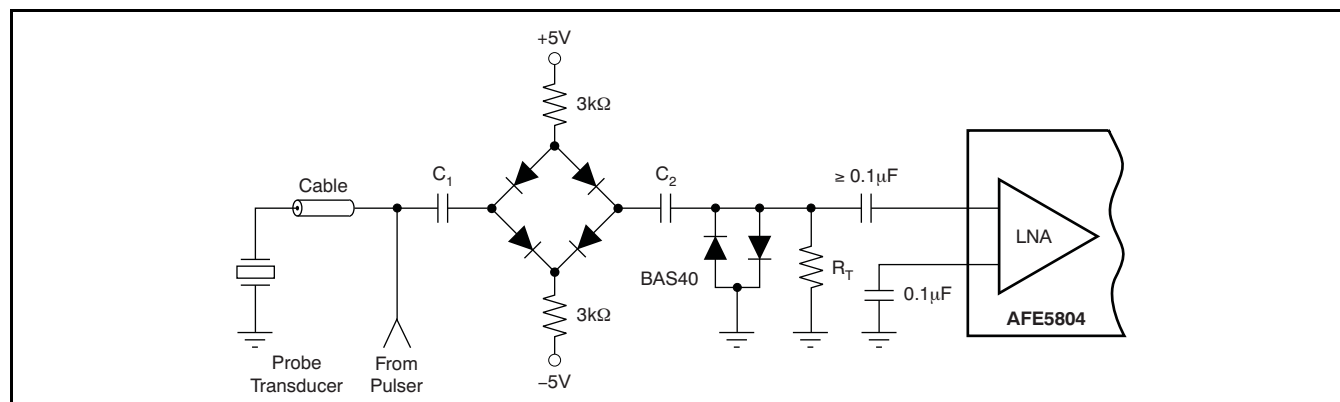

Figure 102. Typical Input Overload Protection Circuit of an Ultrasound System
The AFE5804 is designed in particular for ultrasound applications where the front-end device is required to recover very quickly from an overload condition. Such an overload can either be the result of a transmit pulse feedthrough or a strong echo, which can cause overload of the LNA, PGA, and ADC. As discussed earlier, the LNA inputs are internally protected by a pair of back-to-back diodes to prevent severe overload of the LNA. Figure 102 illustrates an ultrasound receive channel front-end that includes typical external overload protection elements. Here, four high-voltage switching diodes are configured in a bridge configuration and form the transmit/receive (T/R) switch. During the transmit period, high voltage pulses from the pulser are applied to the transducer elements and the T/R switch isolates the sensitive LNA input from being damaged by the high voltage signal. However, it is common that fast transients up to several volts leak through the T/R switch and potentially overload the receiver. Therefore, an additional pair of clamping diodes is placed between the T/R switch and the LNA input. In order to clamp the over-voltage to small levels, Schottky diodes (such as the BAS40 series by Infineon®) are commonly used. For example, clamping to levels of
As Figure 102 shows, the front-end circuitry should be capacitively coupled to the LNA signal input (IN). This coupling ensures that the LNA input bias voltage of $+2.4\text{V}$ is maintained and decoupled from any other biasing voltage before the LNA.
Within the AFE5804, overload can occur in either the LNA or the PGA. LNA overload can occur as the result of T/R switch feedthrough; and the PGA can be driven into an overload condition by a strong echo in the near-field while the signal gain is high. In any case, the AFE5804 is optimized for very short recovery times, as shown in Figure 102.